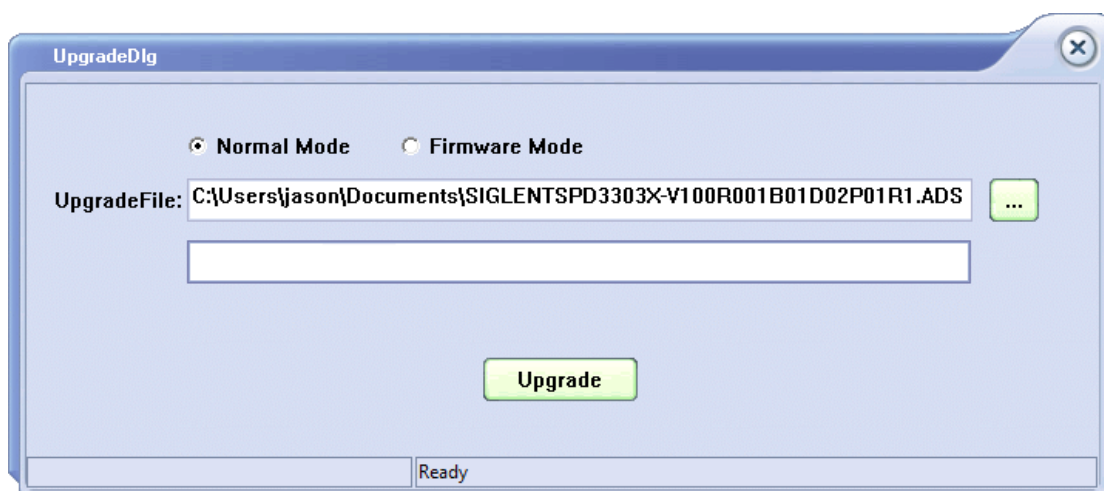
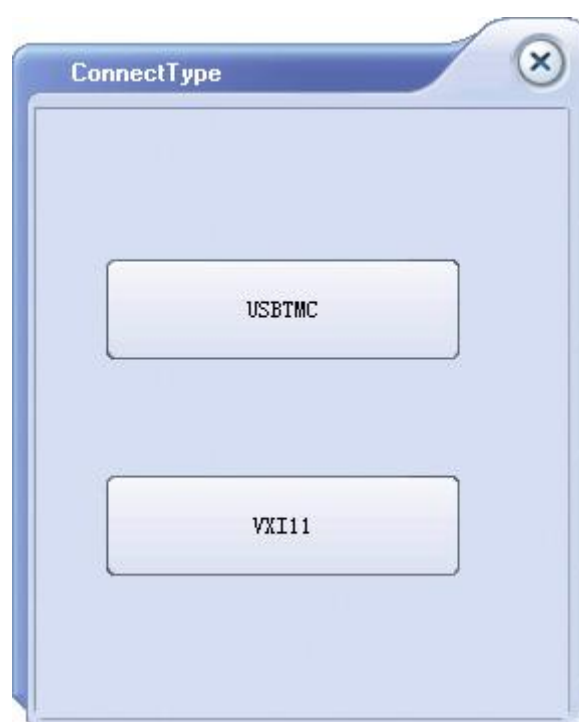

Figure 4
Figure 5
- As it shows in figure 4, click “Upgrade”, a dialog will popup as it shows in figure 5 and then select the upgrade method—USB (USBTMC) or LAN (VXI11). The upgrade is finished when the progress bar complete and the instrument will run the version after upgrade.